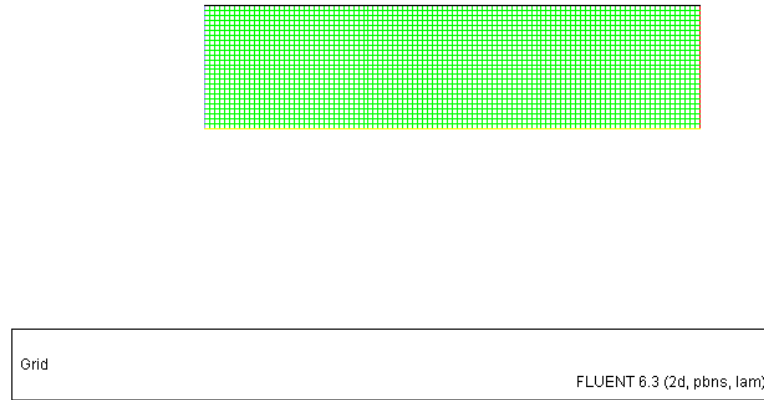

Figure 2: Grid Display
3. Display the grid (Figure 2).